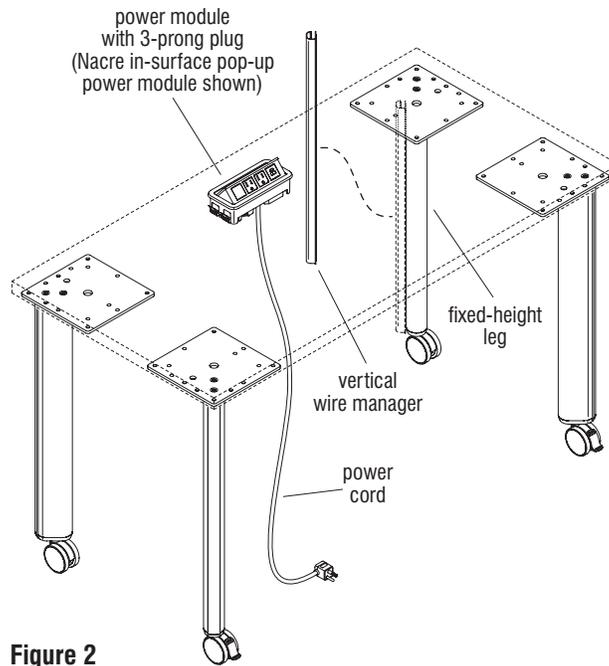

Figure 2
1. Position the vertical wire manager in the desired location against the leg which is closest to a power source. Align the vertical wire manager centered, straight along the leg, and flush with the bottom of the leg. Then mark the location of the wire manager and move the unit away (Figure 2).
2. Remove the adhesive backing from the vertical wire manager to expose the adhesive surface. Position the wire manager back to the marked location, centered on the leg, and press firmly along the adhesive area (Figure 2).